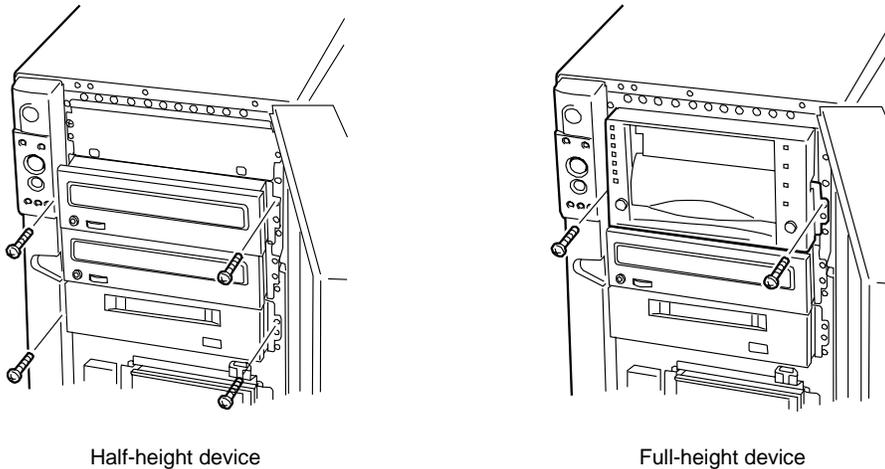

Figure 4-41. Securing the Media Device
7. Secure the device using the screws removed in step 3. See Figure 4-41.